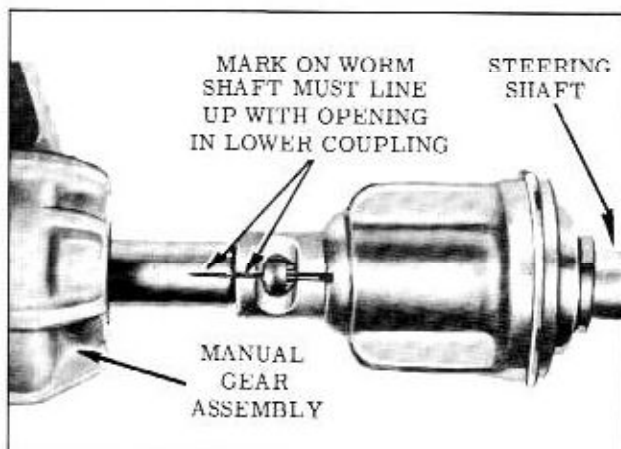

Fig. 4-17 Coupling to Steering Shaft Position
4. Coupling must align with alignment mark on shaft. (Fig. 4-17)